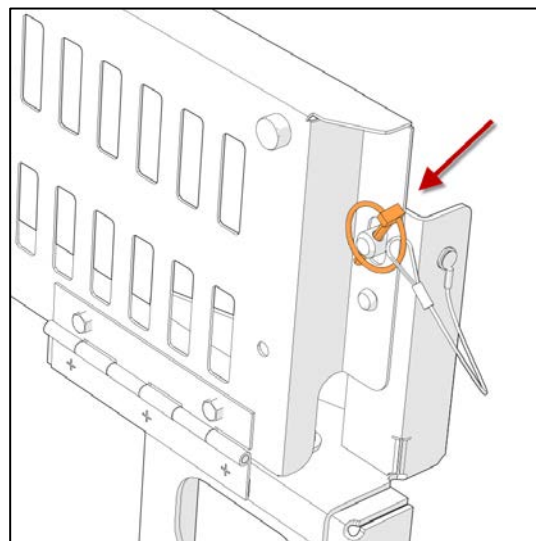

FIGURE 11
11. Make sure the guard is raised and locked in place with the locking pins (2) as shown on Figure 11.